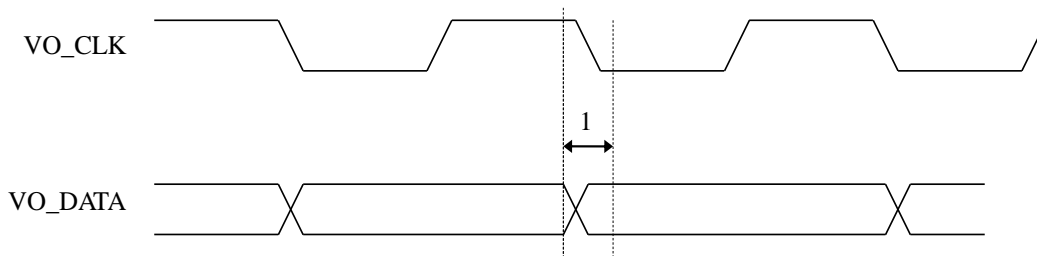

FIGURE 12. VO_CLK AND VO_DATA TIMING
2. The VO_CLK in Figure 12 is configured as 180 degrees delay to the related VO_DATA.